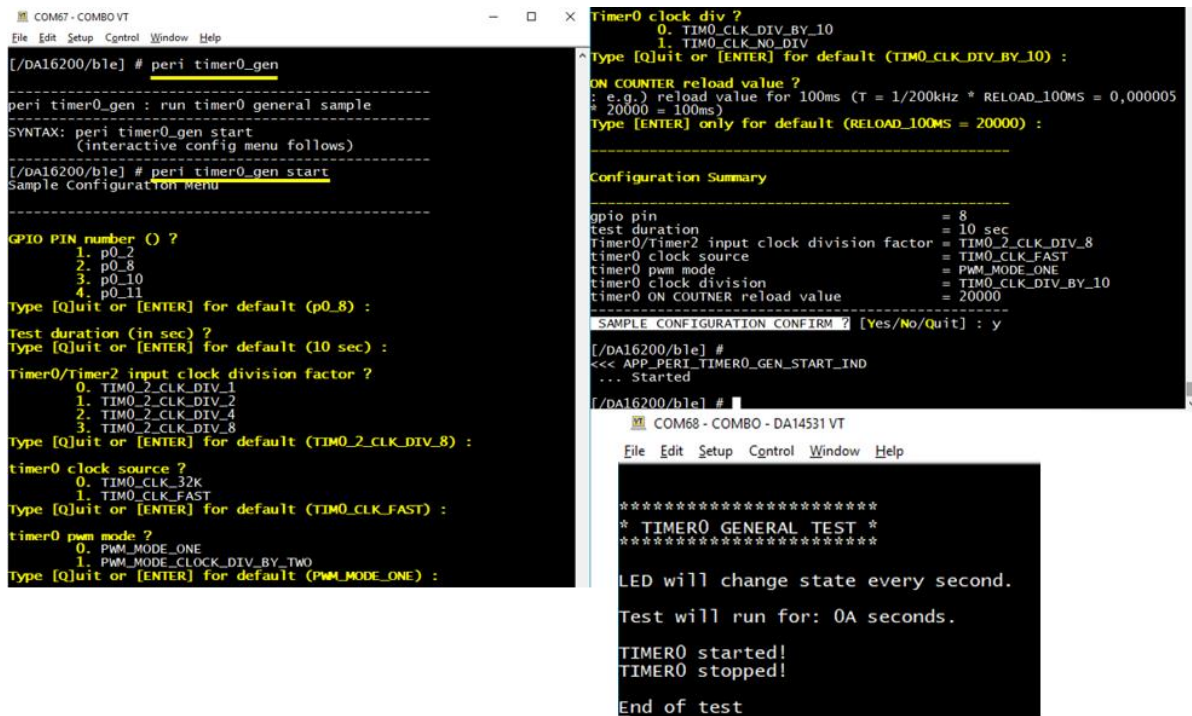

Figure 30: Peri Timer0_gen
3. Run command as in Figure 30 and check LED.